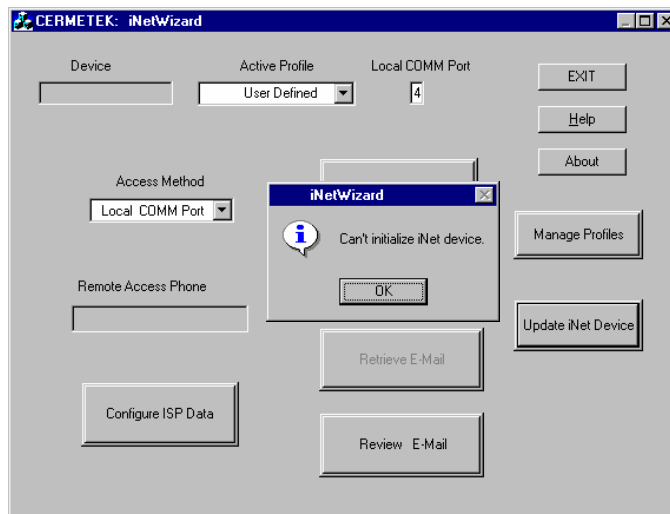
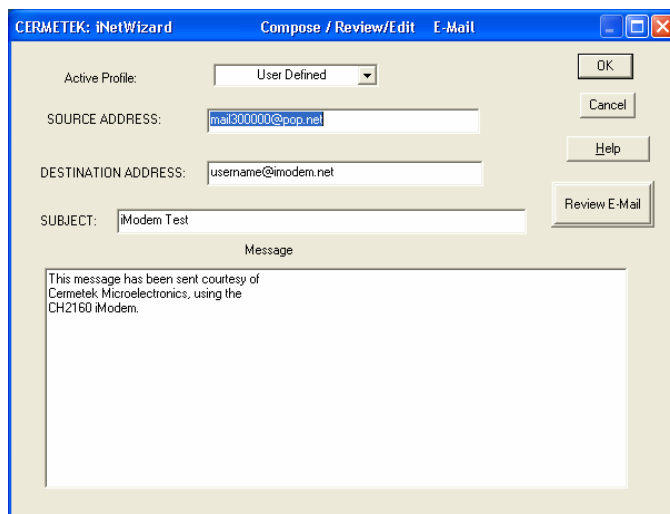

Figure 14. **iNetWizard®** Communication Failure “Can’t initialize iNet device” Error Message.
Figure 18. iNetWizard® Compose/Review/Edit Email window.
Step 5. Receipt of the communication failure message “Can’t Initialize iNet Device” as depicted in Figure 14 means one (or more) failure conditions exist. Although incorrect specification of the COMM PORT number is the most common failure mode, Attachment I contains a summary of typical failure modes encountered and suggested remedies.
Step 1. Referring to the Opening Window in Figure 14, single click on the COMPOSE/REVIEW/EDIT EMAIL button. This will cause the COMPOSE/REVIEW/EDIT EMAIL window to open. See Figure 18.